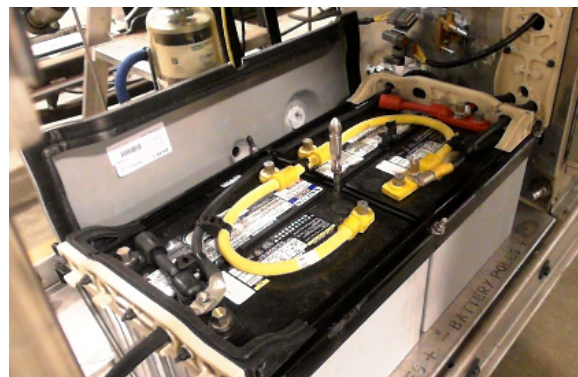

FIGURE 42: BATTERY BANK COVER REMOVED
1. Remove the battery bank cover and place behind the battery bank (FIGURE 42).